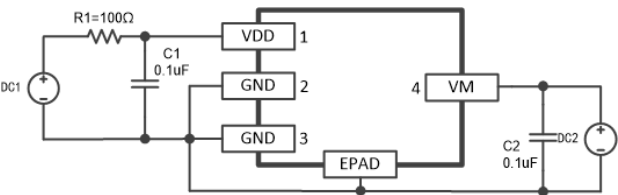

Figure2
- a. According to the figure2, connect the power supply DC1 to the B + and GND pins of the system board and set the voltage to about 3.6V. Connect the DC2 power supply from VM to GND, set the 100mV current limiting 10mA, and observe the waveform.